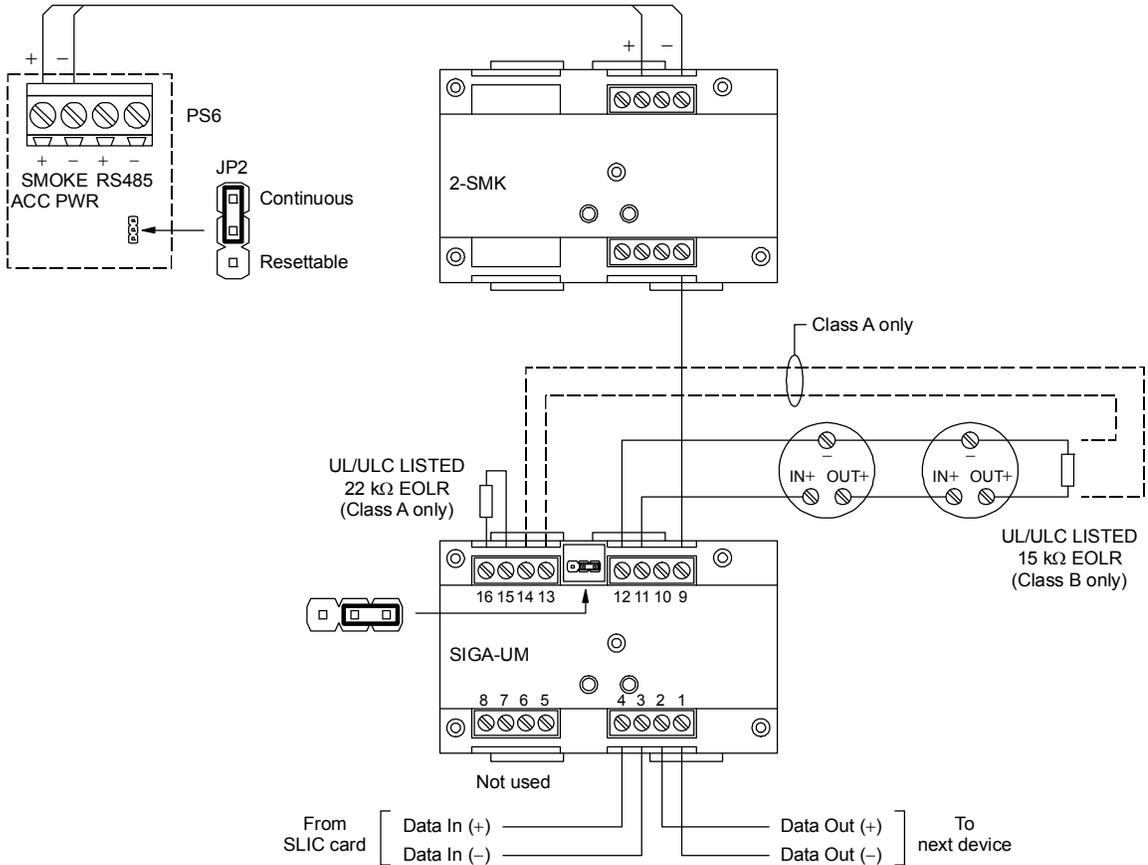

Figure 3-14: Two-wire smoke detector application wiring
1. Wire the 2-SMK and GSA-UM as shown in Figure 3-14.
4. Set JP1 on the GSA-UM shown in Figure 3-14.